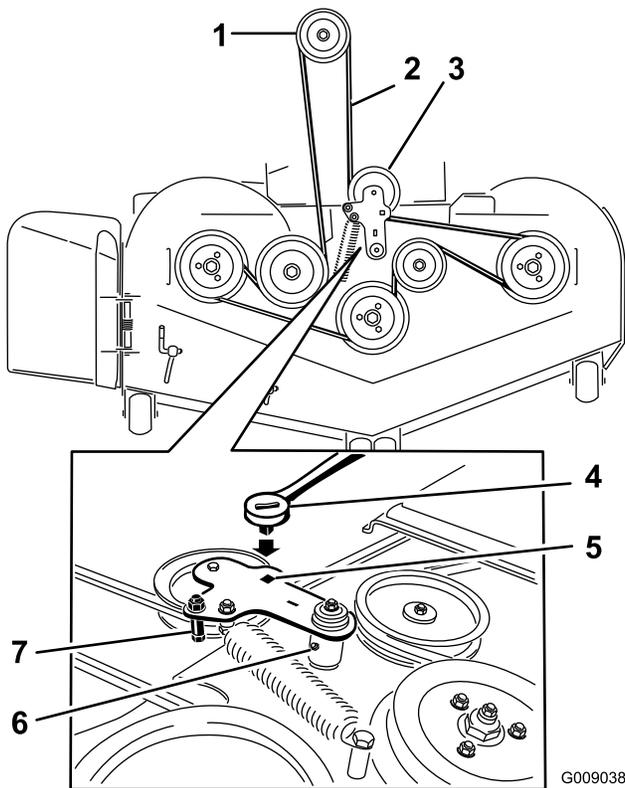

**Figure 95**
blade is not balanced, file some metal off the end of the sail area only (Figure 95). Repeat this procedure until the blade is balanced.
1. Install the blade onto the spindle shaft (Figure 95).
2. Install the spring disk and the blade bolt. The spring disk cone must be installed toward the bolt head (Figure 95). Torque the blade bolt to 115 to 150 N-m (85 to 110 ft-lb).